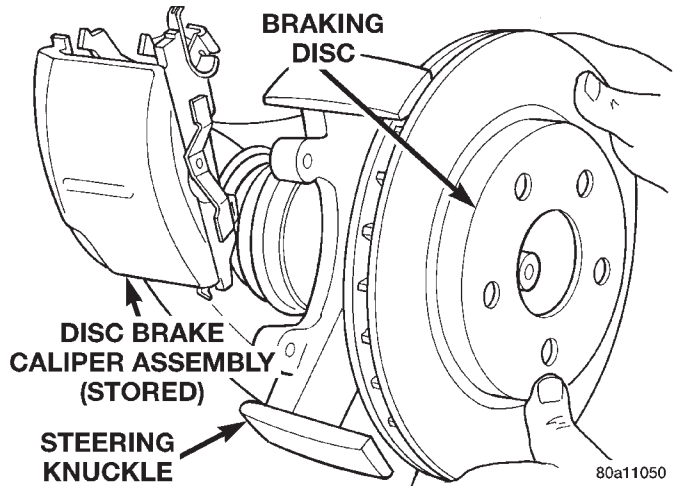

Fig. 87 Removing / Installing Brake Rotor
(7) Remove the brake rotor from the front hub (Fig. 87).
(1) Completely retract caliper piston back into piston bore of caliper assembly. This is required for caliper installation with new brake shoe assemblies.
(2) Lubricate both steering knuckle abutments with a liberal amount of Mopar® Multipurpose Lubricant, or equivalent.
(3) Install the front rotor on the hub, making sure it is squarely seated on face of hub (Fig. 87).
(4) Remove the protective paper from the noise suppression gasket on both the inner and outer brake shoe assemblies (if equipped).